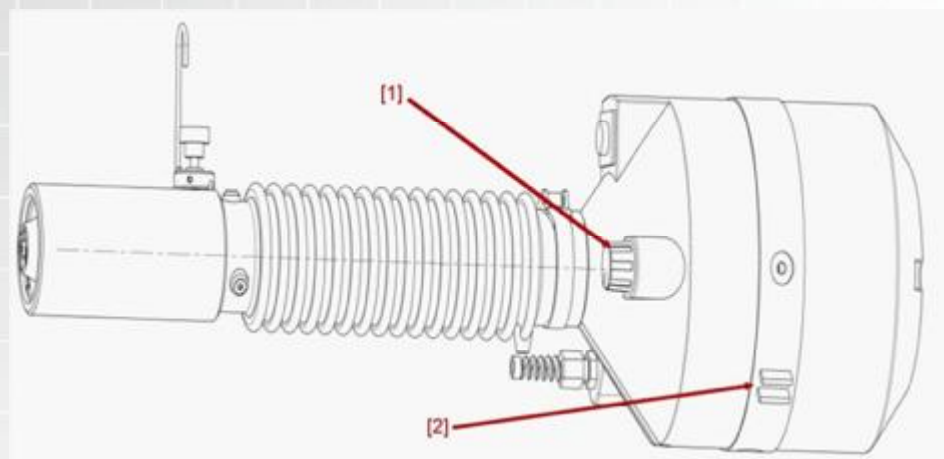

Figure: 1
1. Remove the old motor housing from the frame with the tank. You can do this by loosen the two screws M6x20 that are lateral attached and the other screw M6x25 below the plastic handle (with allen wrench size 5). Now remove the hose connection from the underside of the frame and the hose connection at the front (box wrench SW14). Make sure when you remove the motor unit out of the frame that the threaded sleeve of the bottom hose connection does not get caught in the bore of the frame. You should now have a motor-hose-unit, as shown in figure: 1.
2. Remove the flat lid [1] of the potentiometer knob with the help of the flat screwdriver (figure: 1). Then loosen the locking nut without unscrewing it (open-end wrench SW7). Remove the control knob.